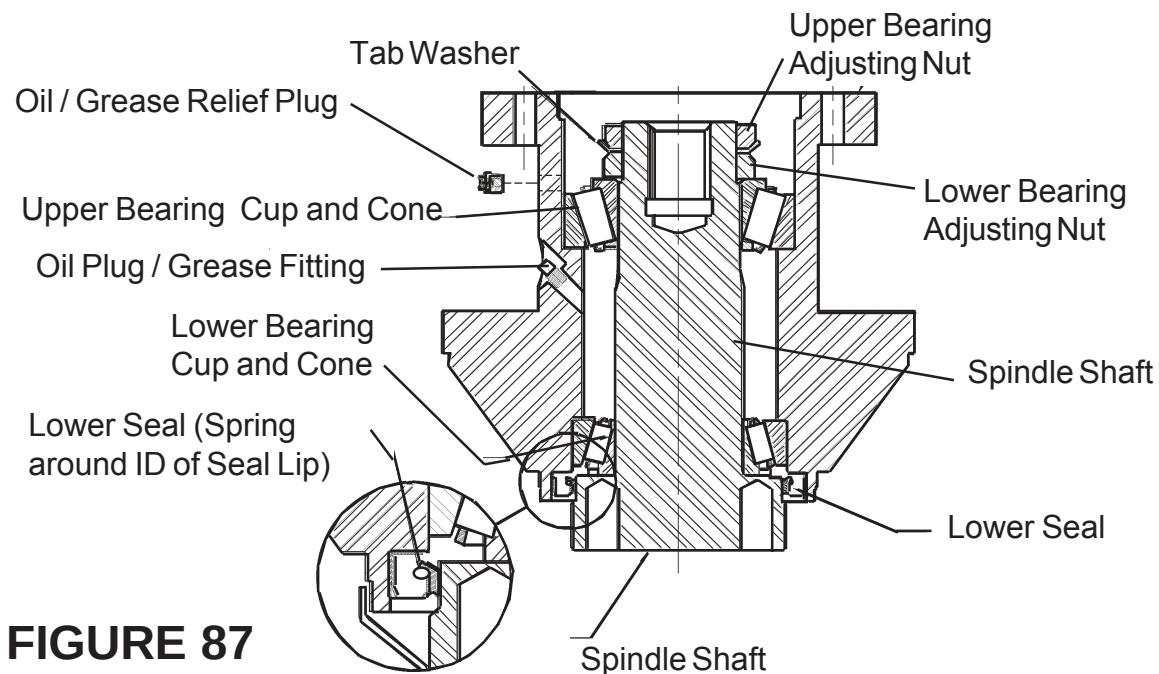

FIGURE 87
1. Spindle Dis-Assembly, (See Figure 87) The Spindle Shaft is held in with 2 notched round Nuts and a Tabbed Locking Washer, first use small Blunt Chisel to bend tab out away from Notch on Round Nut, Using Tabbed Socket (consult your local Tool supplier) un-screw outer Locking Nut, Lift tabbed Washer off Shaft, un-screw lower Bearing Adjusting Nut. It is best to replace Tabbed Washer with new one.